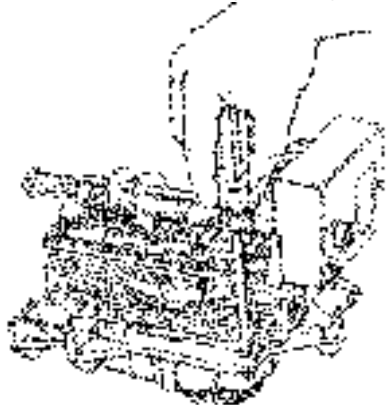

Figure 16
4. Remove screw in locking bar (Figure 16).